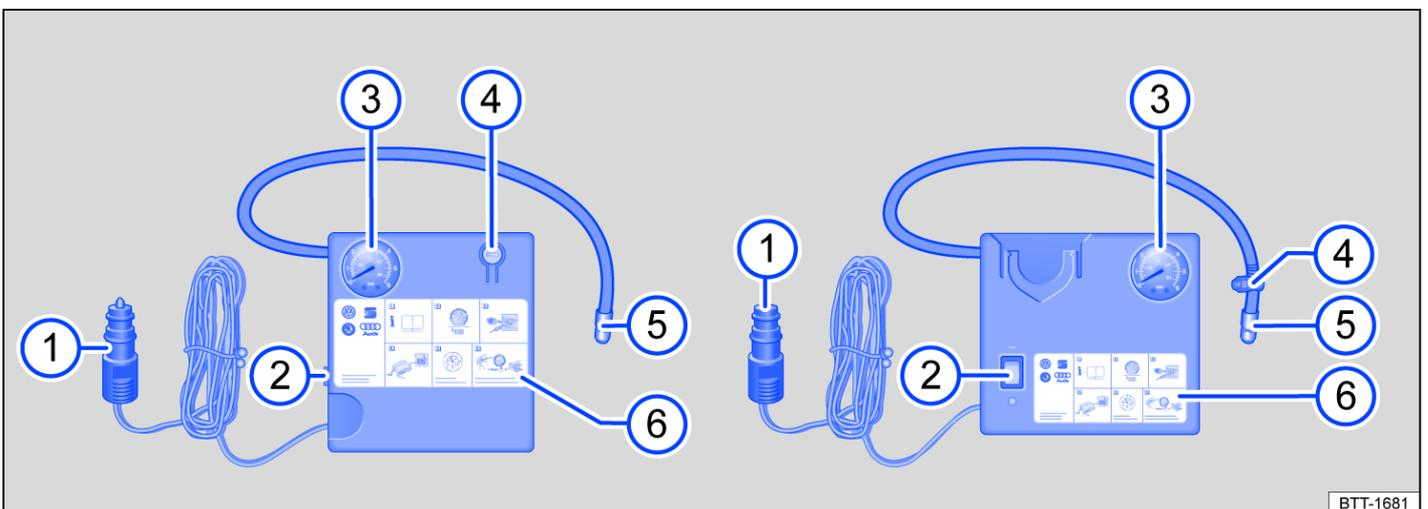

Fig. 2 Illustration: compressor from the breakdown set.
The compressor in the breakdown set consists of the following components → Fig. 2:
- Screw the tyre filler hose → Fig. 2 ⁵ of the air compressor tightly onto the tyre valve.
- Check that the bleed screw → Fig. 2 ⁴ is closed.
- Insert the 12-volt plug → Fig. 2 ¹ into one of the vehicle's 12-volt sockets (→ Sockets).
- Use the ON/OFF switch → Fig. 2 ² to switch on the air compressor.